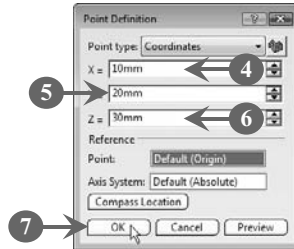

FIGURE 5.42
The **Point Definition** dialog box opens (**Figure 5.42**).
4. *Enter* a value representing the  $x$ -coordinate for the center of the spherical surface in the **X =** box (Figure 5.42). In our case, we have entered **10 mm**.
5. *Enter* a value representing the  $y$ -coordinate for the center of the spherical surface in the **Y =** box (Figure 5.42). In our case, we have entered **20 mm**.
6. Enter a value representing the  $z$ -coordinate for the center of the spherical surface in the **Z =** box (Figure 5.42). In our case, we have entered **30 mm**.
7. Click the **OK** button to close the **Point Definition** dialog box, as shown in Figure 5.42: